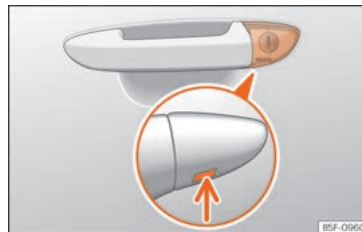

Fig. 6 Driver door lever: hidden lock cylinder.
- Insert the key shaft into the lower opening in the cover on the driver door handle »» **Fig. 6** (arrow) then remove the cover upwards.